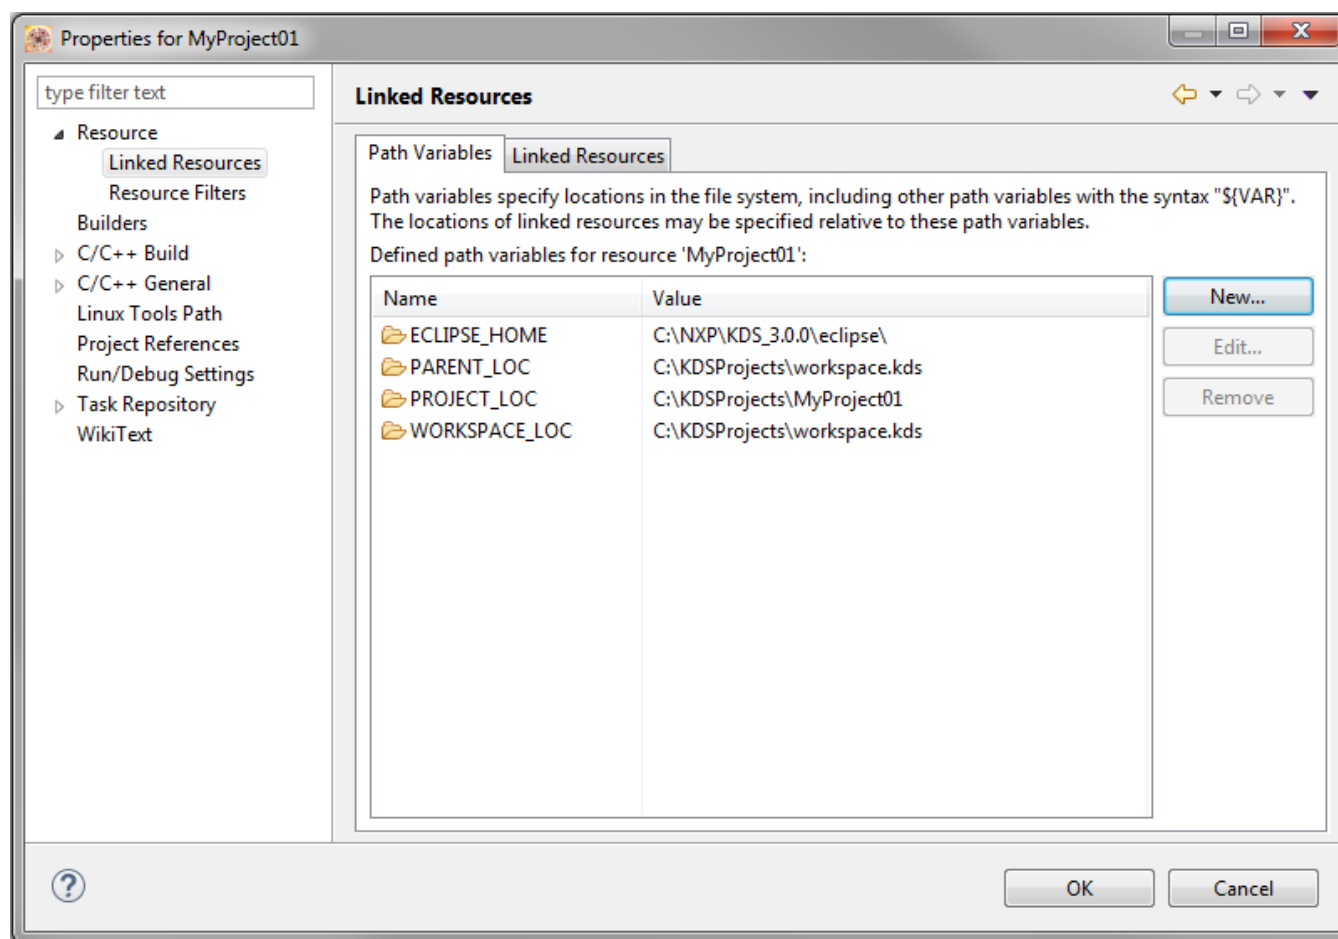

Figure 1-16. Project properties
2. Expand the Resource node and click Linked Resources. See Figure 1-16.